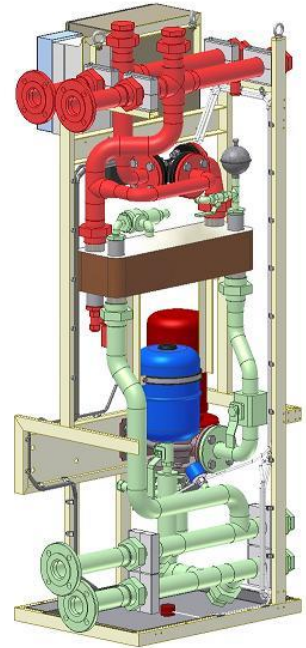

Figure 4.2-1
- Primary circuit, HXL120-PS01 (green colour in the Figure 4.2-1)
- Secondary circuit, HXL120-PS02 (red colour in the Figure 4.2-1)